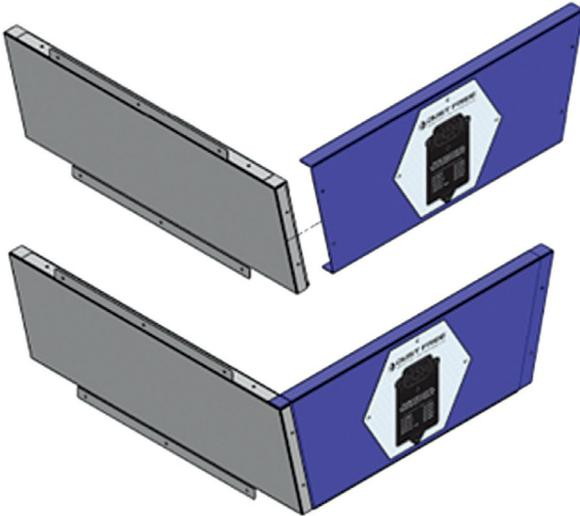

Figure 3: Side and rear panel alignment and assembly
2. Place the rear panel on a firm surface. Align and insert one side panel into the rear panel, inside the flange as depicted in **Figure 3**.